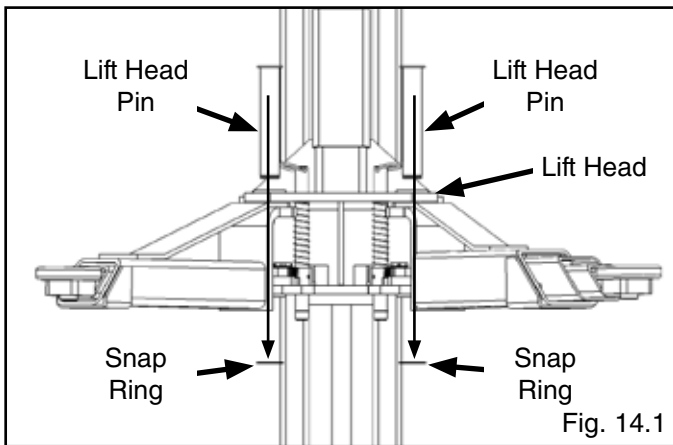

Fig. 14.1
2. Install the Lift Head Pins into the Lift Head and through the holes in the Lift Arm (See Fig. 14.1).